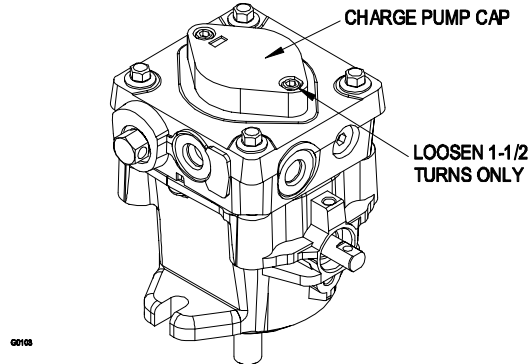

FIGURE 4
- g) If either drive wheel does not rotate, one or both of the charge pumps (located on the top of the main pump as shown in Figure 4) may have lost their "prime". Refer to Section 4.1.11.
The critical area for purging air from the hydraulic system is between the oil reservoir and each charge pump located on the top of each variable displacement pump (See Figure 4).
- e) To “prime” charge pump, loosen two hex socket head capscrews (shown in Figure 4) **1-1/2 turns only**. **Make sure engine is not running**. Lift charge pump housing upward and wait for a steady flow of oil to flow out from under housing. **Retighten capscrews**. Do this for both pumps. Note: Hydraulic reservoir can be pressurized to up to 5 psi (35 kPa) to speed this process.